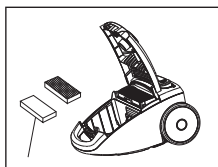

Fig. 17
3. Output filter (washable HEPA filter) is situated under the air outlet. Open the vacuum cleaner cover and replace the old filter with a new one (fig. 17).